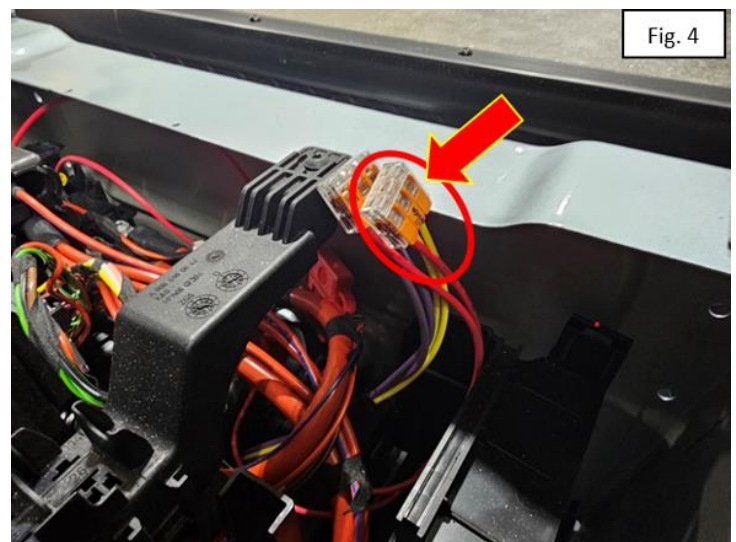

Fig. 4
4. If the 16AWG yellow wire is looped, it will need to be cut and a wago connector added in with the red wire from the in-line fuse holder (10A), with the blue terminal ring. (Figure 4)